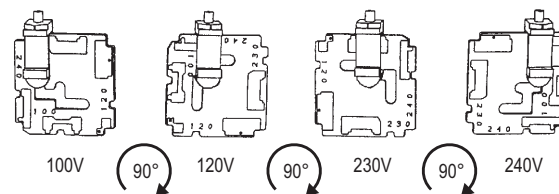

Figure 5. Voltage card selector orientation.
- Orient the selector card so that the desired input voltage is readable at the bottom, shown in Figure 5. Then move the indicator pin to point UP, opposite the indi-